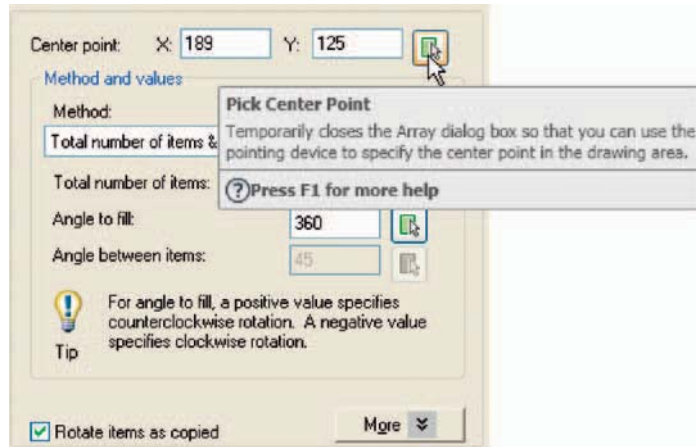

Fig. 5.21 Second example – Array – the Pick Center point button
3. Click the **Select objects** button of the dialog and window the drawing. The dialog returns to screen. Click the **Pick center point** button (Fig. 5.21) and when the dialog disappears, *pick* a centre point for the array.